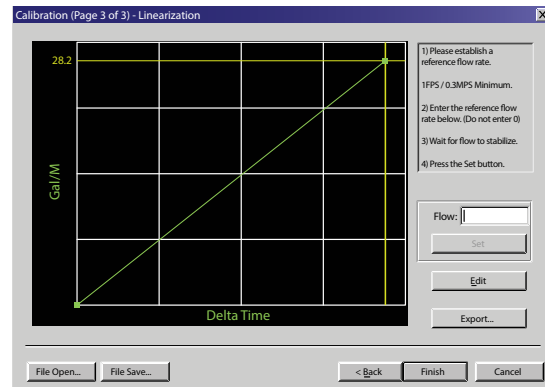

Figure 14: Calibration points editor
3. On the pop-up screen, click **Next** twice to get to *Page 3 of 3*. See *Figure 14*.
9. The display will return to *Page 3 of 3*. Click **Finish**. See *Figure 14*.